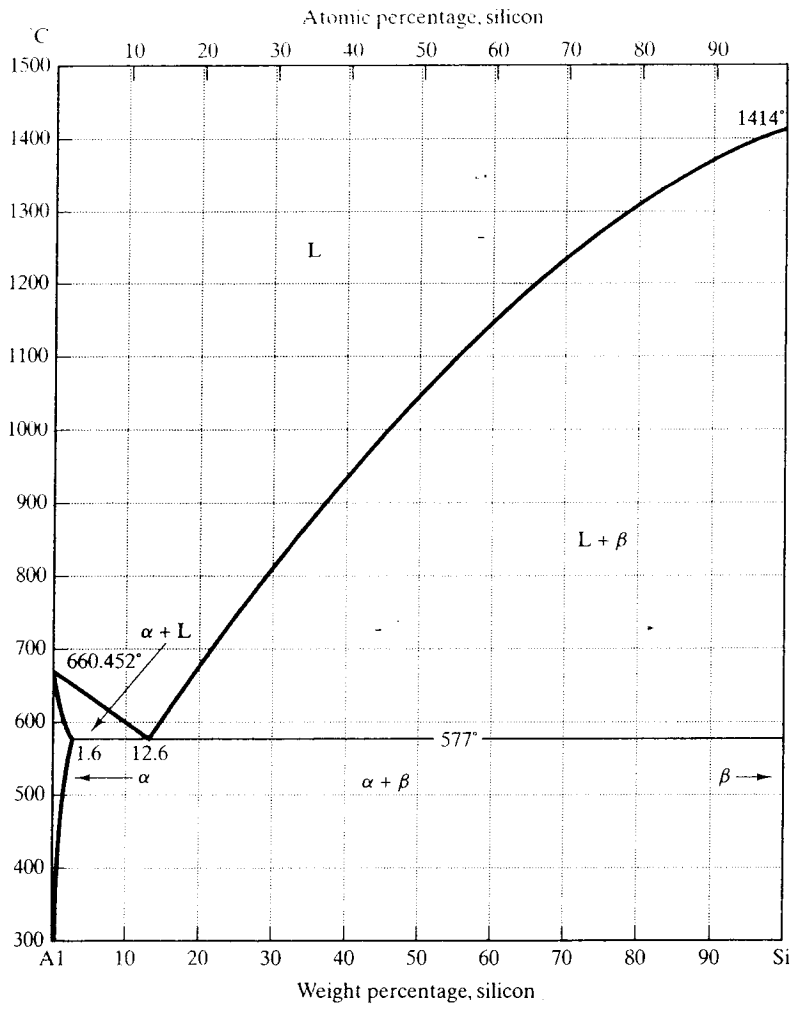

Figure 4
- [b] The solid solubility of silicon in aluminium is 1.25 at % at 550°C and 0.46 at % at 450°C. What solubility would you expect at 200°C. The relevant Si-Al phase diagram is in Figure 4.